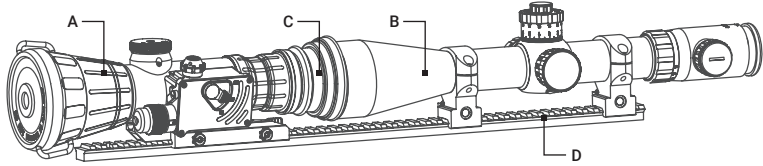

FIGURE 2-3. COMANCHE-40ER ON A PICATINNY RAIL IN FRONT OF A DAY SCOPE
4. Install the Comanche-40ER on the Picatinny/ Weaver rail in front of the day scope so that the stop (C) slides into one of the rail's transverse slots. The light suppressor should cover the day scope's objective lens.
5. Affix the Comanche-40ER to the rail by locking the cam lever (B).
Figure 2-3 shows the Comanche-40ER (A) and a day scope (B) installed with the light suppressor (C) on a Picatinny/Weaver rail (D).